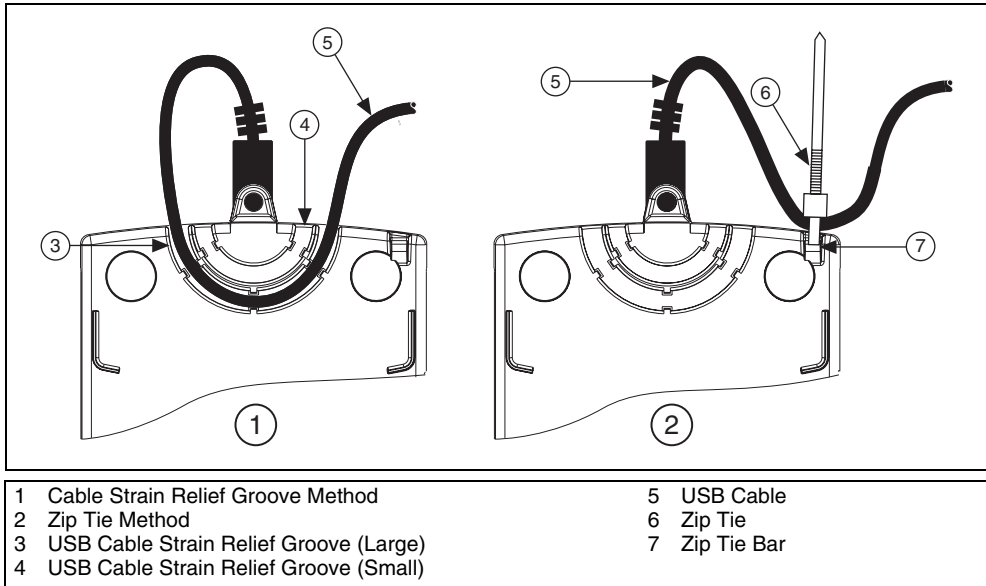

Figure 6. USB Cable Strain Relief Options
- **Cable Strain Relief Groove Method**—Press the USB cable into one of the two grooves on the underside of the USB device. Choose the USB cable groove that matches your USB cable size, as shown in Figure 6.
- **Zip Tie Method**—Thread a zip tie through the zip tie bar on the underside of the USB device and tighten around the USB cable, as shown in Figure 6.